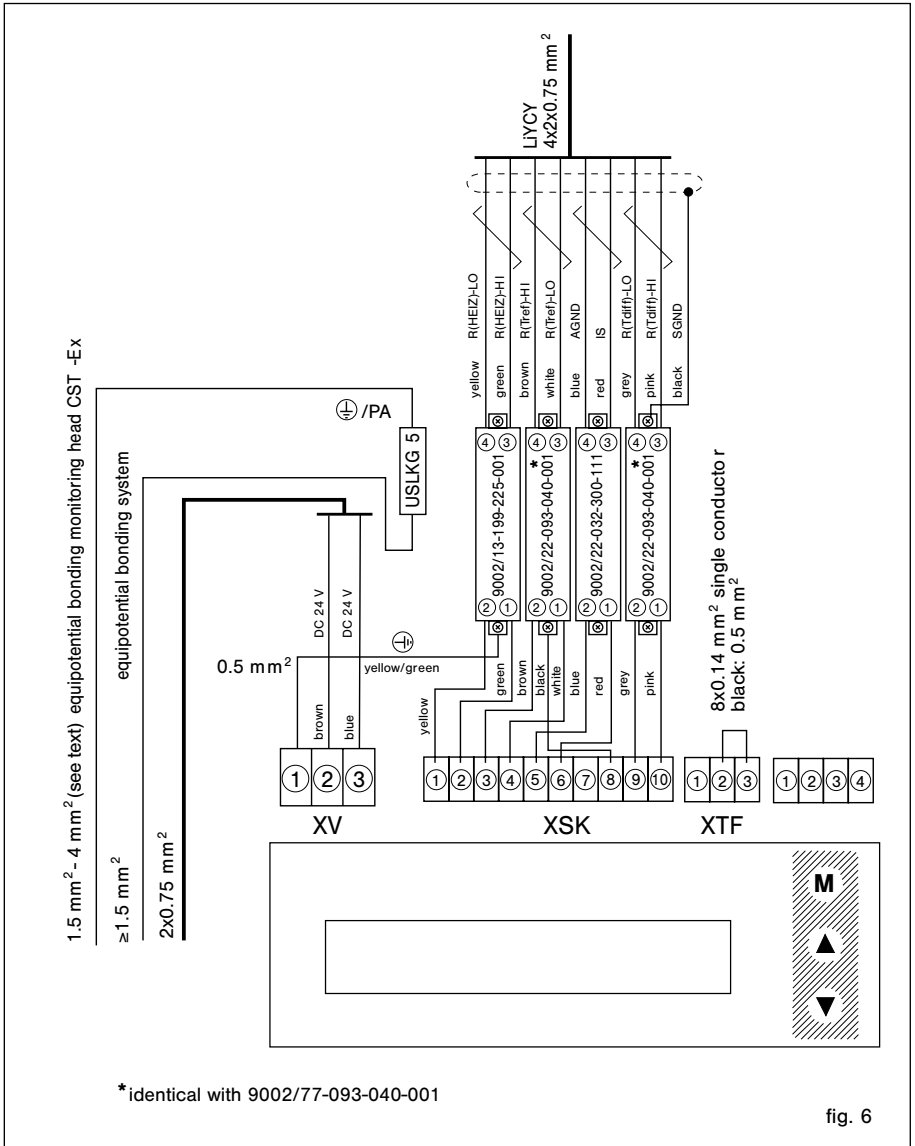

fig. 6
- Take the FC01-Ex equipotential bonding cables ($\geq 1,5 \text{ mm}^2$) from the monitoring head through the cable gland 1 (fig. 7) and to the centre grounding system (fig. 6) and connect to terminal USLKG5.
- Take the cable of the monitoring head through the blue cable gland and connect to the barriers according to the connection scheme FC01-Ex (fig. 6).
- Take power supply feed through cable gland 2 and further required connection cables through cable gland 3 (fig. 7) and connect to terminals XV (see connection scheme fig. 6).